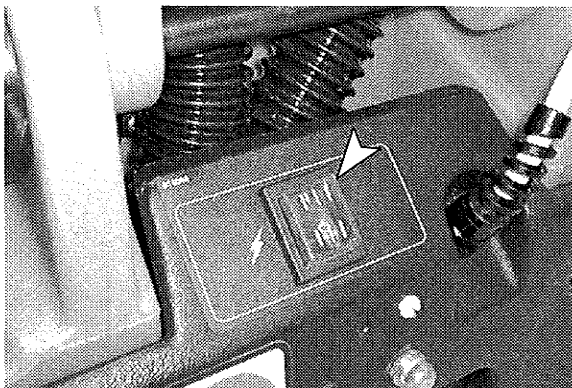

FIG. 5
1. Turn main power switch on (Figure 5).